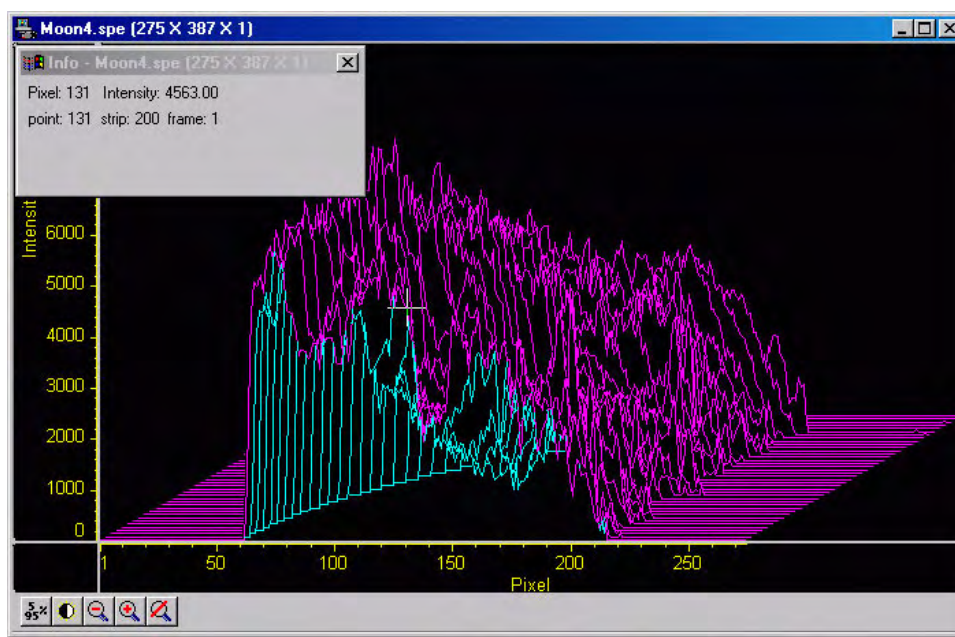

Figure 70. 3D Plot with Hidden Surfaces
2. Click on **OK**. The data should be redisplayed as shown in Figure 70, with the hidden surface (darker lines) clearly visible.